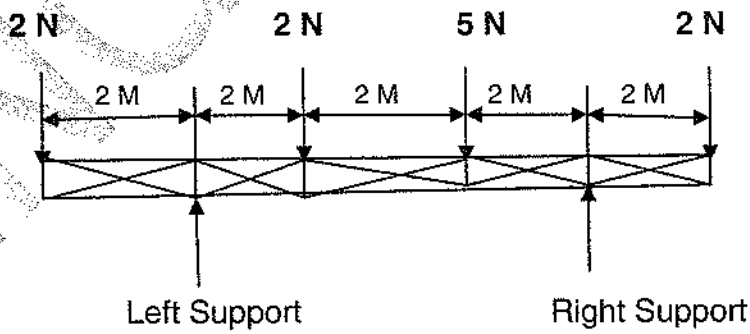

FIG 2
- 6.1 The simply supported beam as seen in FIGURE 2 on DIAGRAM SHEET (attached) supports four point loads.